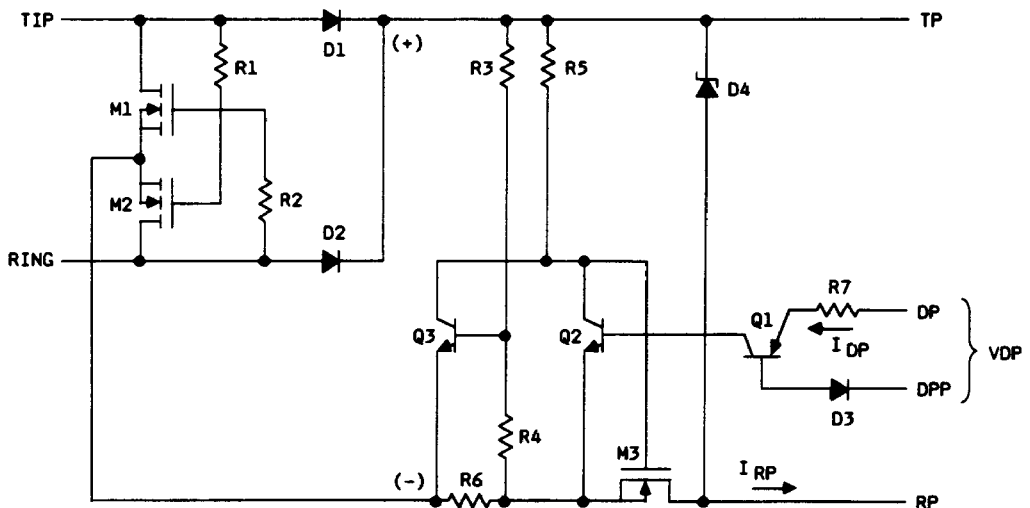

Figure 1. Simplified Schematic Illustrating Symboly of Characteristics
The output terminals of the TIC are TIP Prime (TP) and RING Prime (RP). TP is the positive output side of the polarity guard (full-wave rectifier). The RP terminal is connected to the negative side of the polarity guard by an internal dial pulse switch (M3, Figure 1) which is opened by applying a voltage between the control terminal Dial Pulse (DP) and Dial Pulse Prime (DPP).
The dc characteristics of the LH1028BB TIC are shown in Figure 8. The RP, DP and DPP terminals are shorted and a 40 Ω load is between TP and RP. Also shown in Figure 8 is a load curve representing the central office battery and loop resistance. Note that the loop load intersects the TIC characteristics in a region where the drain current of M3 (Figure 1) is limited only by the 40 Ω load and not by the current limiting feedback current in the device. If the characteristic of the LH1028BB TIC current limiting circuit had a slope such that it intersected the loop load curve, it would be possible for the TIC to "latch up" in this higher voltage state and fail to operate properly. For this reason, the current limiting curve of the TIC has been designed to always be above, and almost parallel to, the worst case loop load curve.